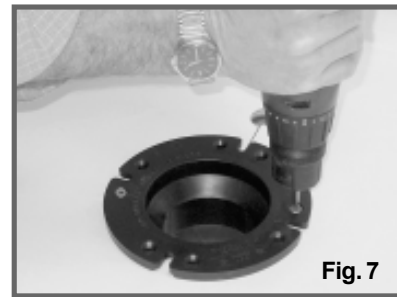

Fig. 7
STEP 7: Insert floor flange into larger hole and secure to the floor with #12x3/4-inch long flat head wood or sheet metal screws (fig. 7).